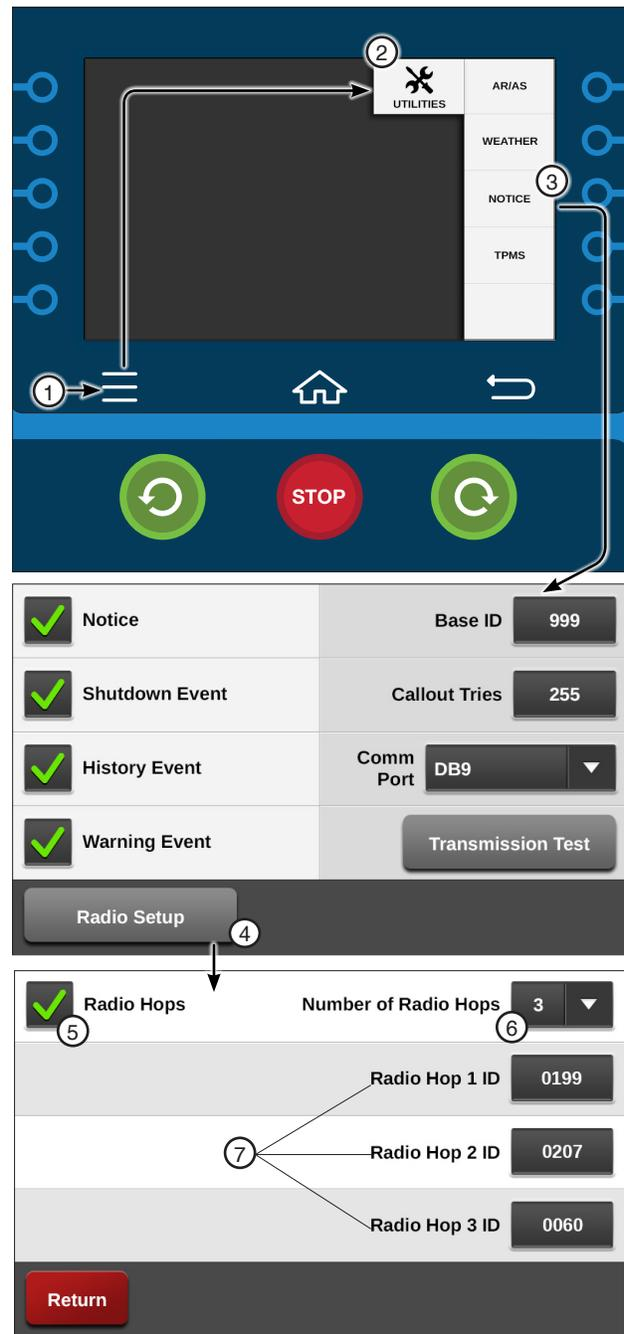

Figure 82-1 1. Menu 2. Utilities 3. Notice 4. Radio Setup 5. Radio Hops Checkbox 6. Number of Radio Hops 7. Radio Hop IDs
The Number of Radio Hops drop-down menu is used to setup the number of Radio Hops. Refer to Figure 82-1.
Use Radio Hop ID fields to setup the intermediate unit ID to be used by the control panel. Refer to Figure 82-1.
1. Push **Menu**, **Utilities**, **Notice** and push the **Radio Setup** button to display the Radio Setup screen. Refer to Figure 82-1.